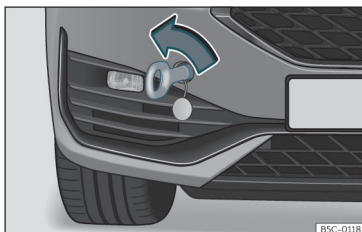

Fig. 44 Right side of the front bumper: towline anchorage in position.
- Screw the towing eye in the housing by turning it as far as it will go **anticlockwise**»» **Fig. 44** »» **!**. Use a suitable object that can completely and securely tighten the towing eye in its housing.